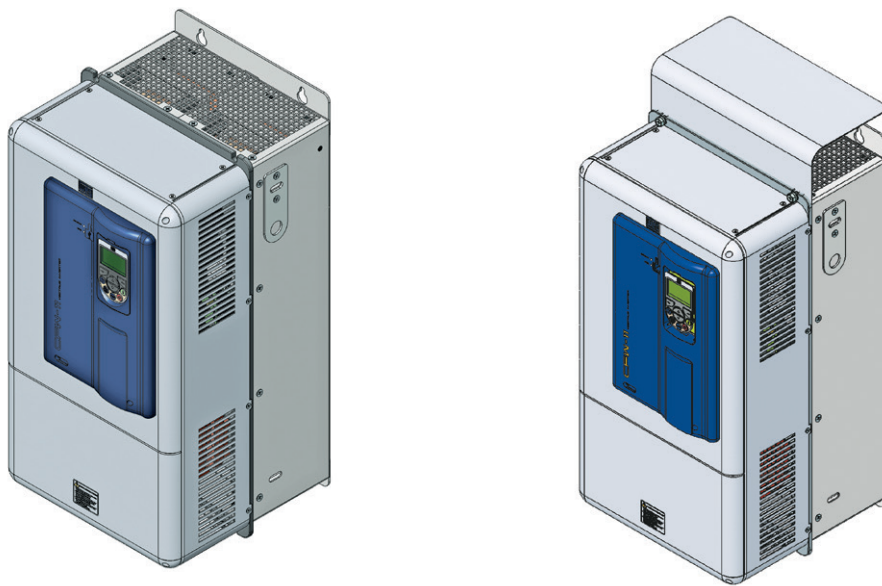

Figure 3.5 - Installation of the Nema1 kit top ("hat")
- ☑ Install the Nema1 kit top on the inverter as showed in the Figure 3.5 on page 3-7 using the 2 M8 screws supplied with the product.